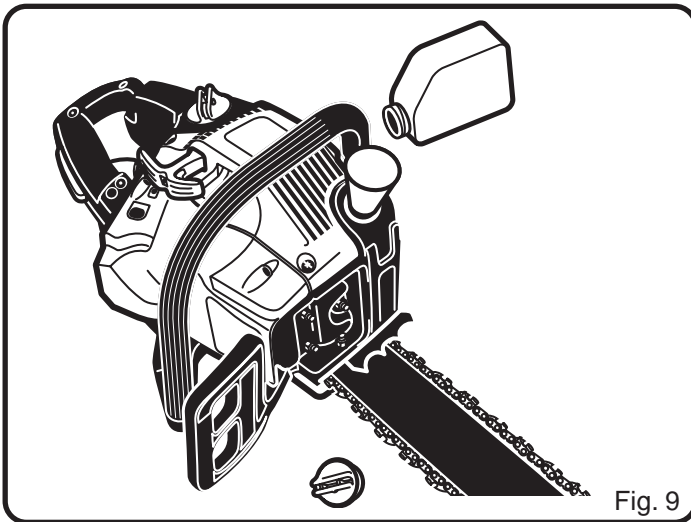

Fig. 9
1. Carefully pour the bar and chain oil into the tank. See *Figure 9*.